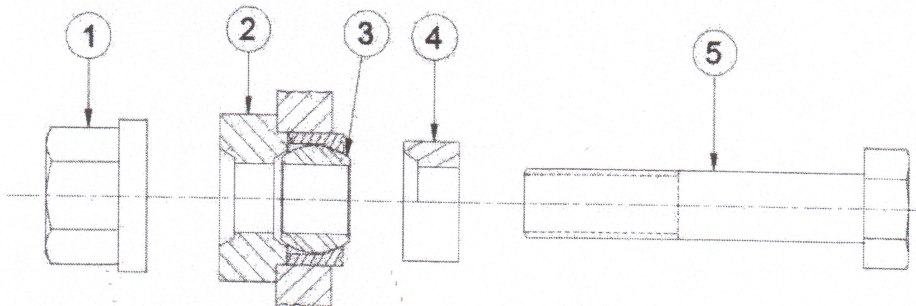

Fig. 1
1. Separate the tool by unscrewing flange nut (1)
2. Place shaft (5) through pusher cup (4) with flat side against bolt head.
3. Insert shaft through bearing bore (3) with angle side of flanged pusher (4) against bearing lip.
4. Place locating fixture (2) with stepped side into backside of bearing housing and push shaft (5) through (see FIG 1).
5. Connect flange nut (1) and tightened until bearing stops at step of locating fixture (2).